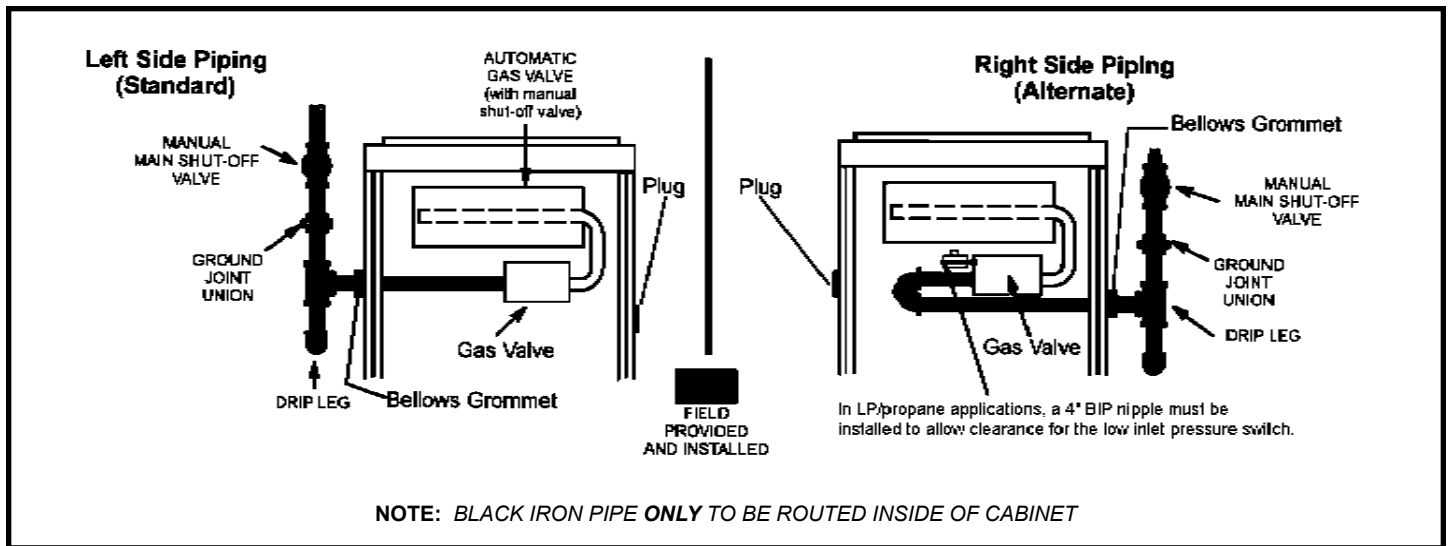

Figure 58
1. Gas piping may be routed into the unit through either the left or right hand side. Supply piping enters into the gas valve from the side of the valve as shown in Figure 58 and 59. Move Bellows grommet to side which gas line enters. Ensure opposite gas line hole is plugged with supplied plug.
3. Gas piping must not run in or through air ducts, clothes chutes, chimneys or gas vents, dumb waiters or elevator shafts. Center gas line through piping hole. Gas line should not touch side of unit. See Figures 58 and 59.